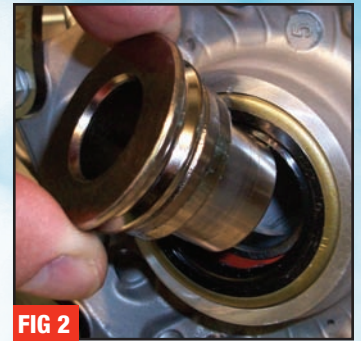

FIG 2
**2** Using a hammer, tap the punch around the entire circumference of the spacer until it completely slides out of the bearing (**Fig. 2**). Turn the wheel over and remove the other spacer in the same way.